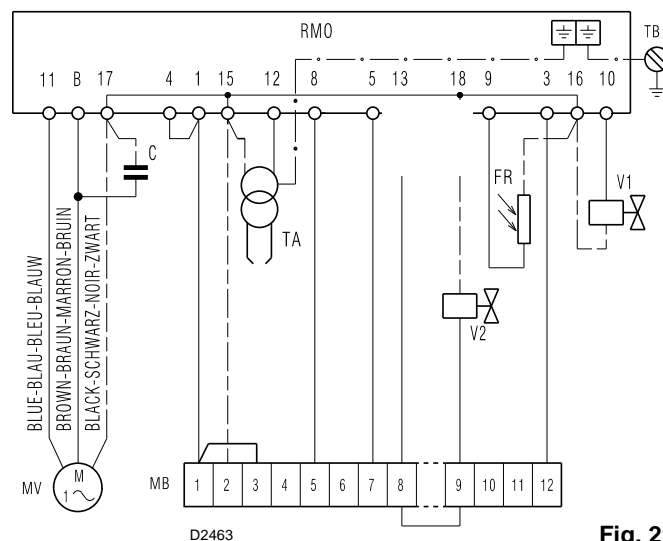

Fig. 21
• LAYOUT (Fig. 21)
Key to Layout (Fig. 21)